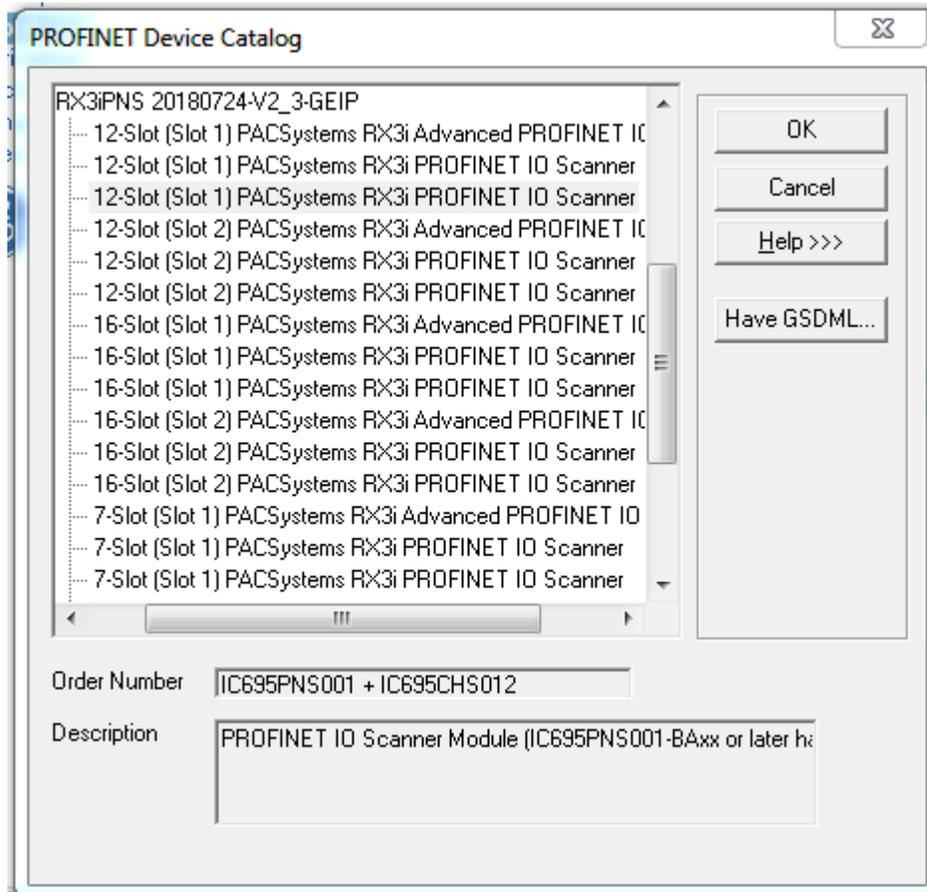

Figure 14: Add Device from Catalog
- In this case (Figure 14), the user